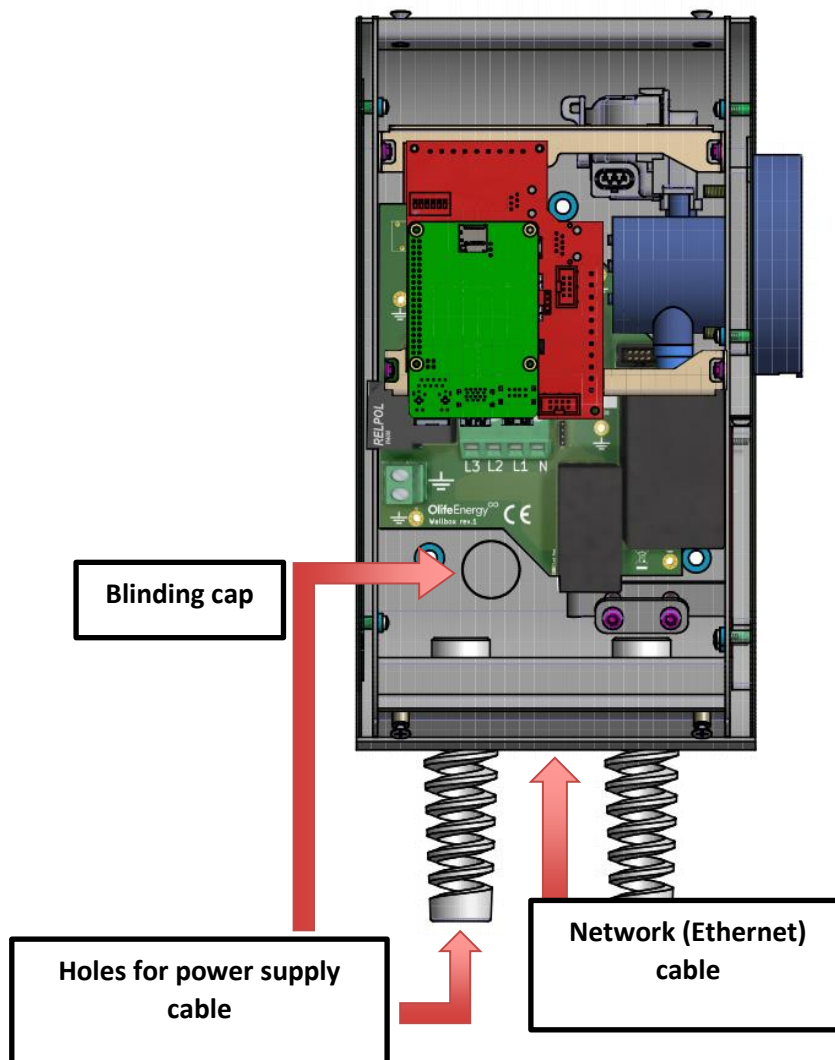

Fig. 8: Front side of opened Wallbox
- Pull the power supply conductor either through the left bottom bushing, or through the rear side of the chassis, see Fig. 8.